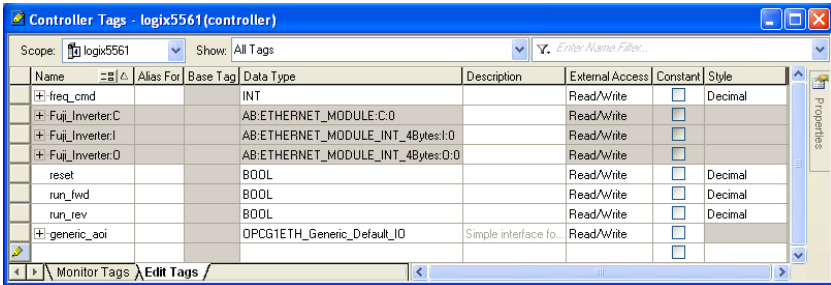

Figure 87: Create Generic Default AOI Tags
- 4) Create the tags in Figure 87.